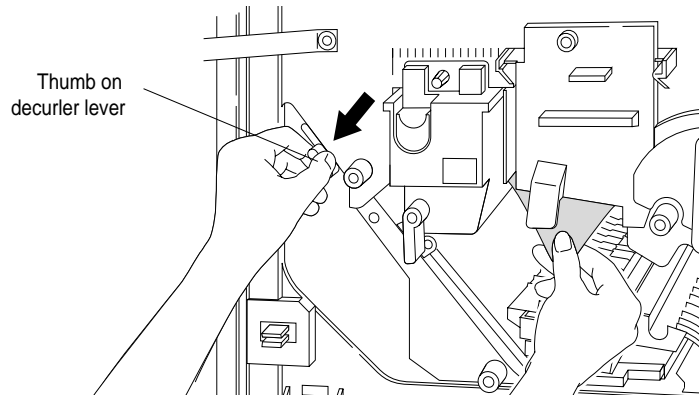

Figure 3-51 Removing Fuser Unit paper jam using Decurler Lever
3. Look for a sheet or sheets of jammed paper on the right side of the fuser unit. While pressing the decurler lever with your left hand, reach in and remove any jammed paper with your right hand, as shown in Figure 3-51.